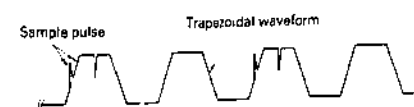

Fig. 52
- 1) Short-circuit PG509-① and PG509-②, and adjust the slow speed control (R513) so that the pair of sampling pulses are locked on the two periodic trapezoid waveforms or the pair of sampling pulses flow as slowly as possible. (Fig. 52)
- 2) After adjustment, open circuit PG509-① and PG509-②.